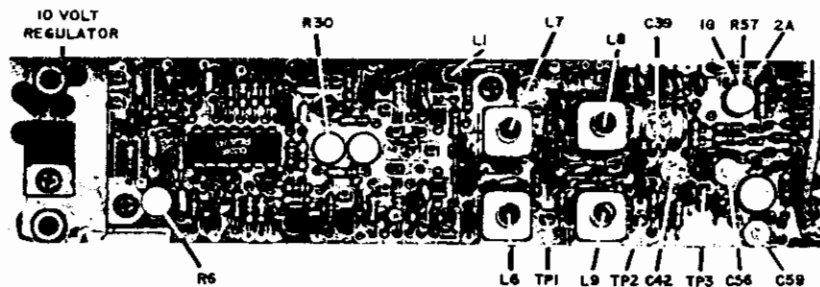

Fig. 6-2a
3. Attach and secure the microphone to the connector on the front panel, the wattmeter (with 5 watt element) through the coaxial adapter to the output of the exciter, and rotate the power level control (R57) on the exciter fully clockwise (Fig. 6-2a).